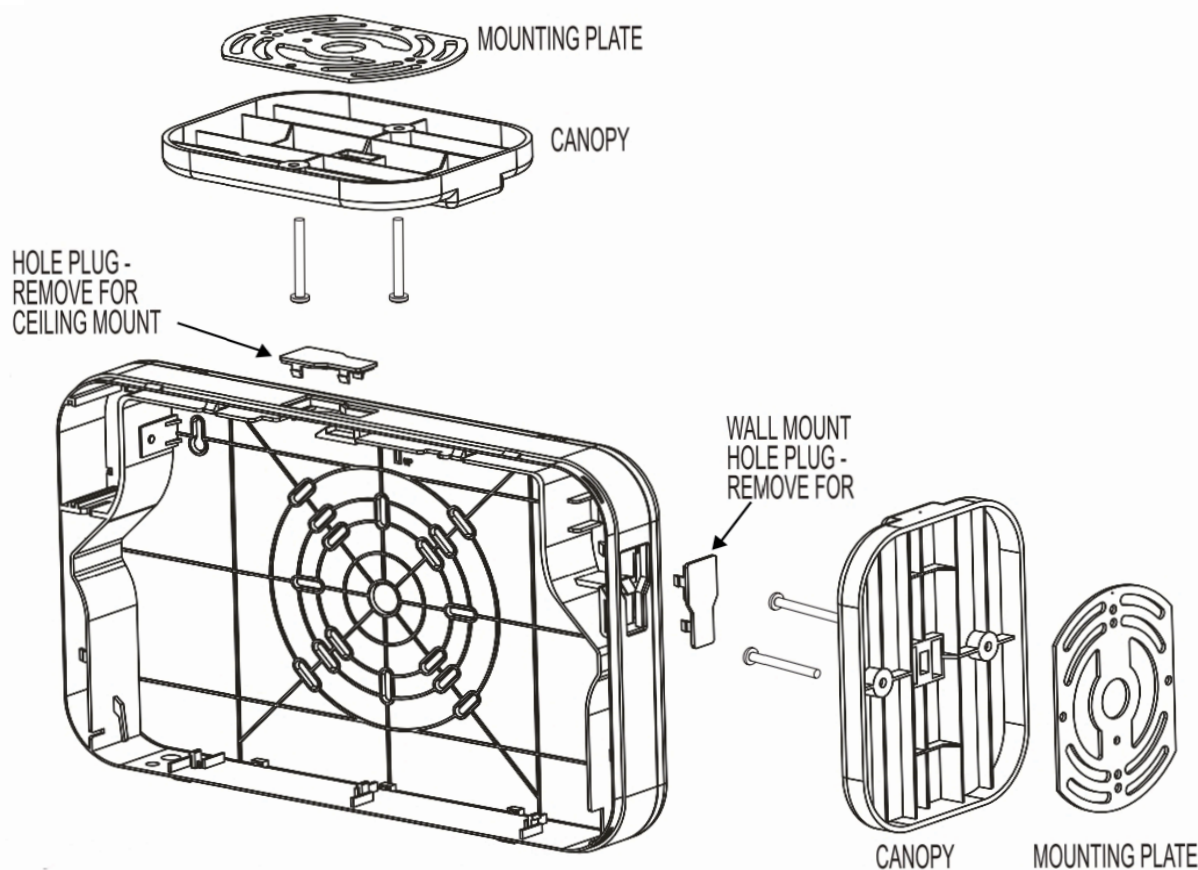

Figure 2 - Wall Mount & Ceiling Mount
- Drill or knock out appropriate knockouts on back plate to fit junction box mounting points. (See Figure 2)
- Place screws (provided) in holes on the canopy (See Figure 2).